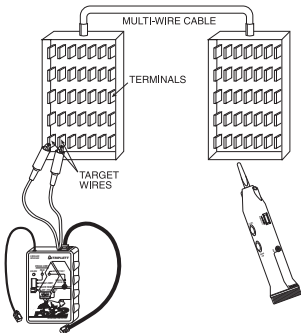

Figure 3
*In the **floating method (also called Line to Line)**, the tracer tone is applied to two wires (a pair) in the cable or wire harness to be tested. See Figure 3. The FOX or FOX 2's red clip is connect to one wire and the green clip is connected to the other wire. This method is often used on telephone, intercom, or alarm wires. The floating method tends to cancel out some of the tracer tone, so a HOUND 3 usually works best when the user has access to the wires, and can place the HOUND 3 right against the wires. This method identifies the wires as a pair. It will not identify which wire is connected to the FOX or FOX 2's green clip or which wire is connected to the red clip.*